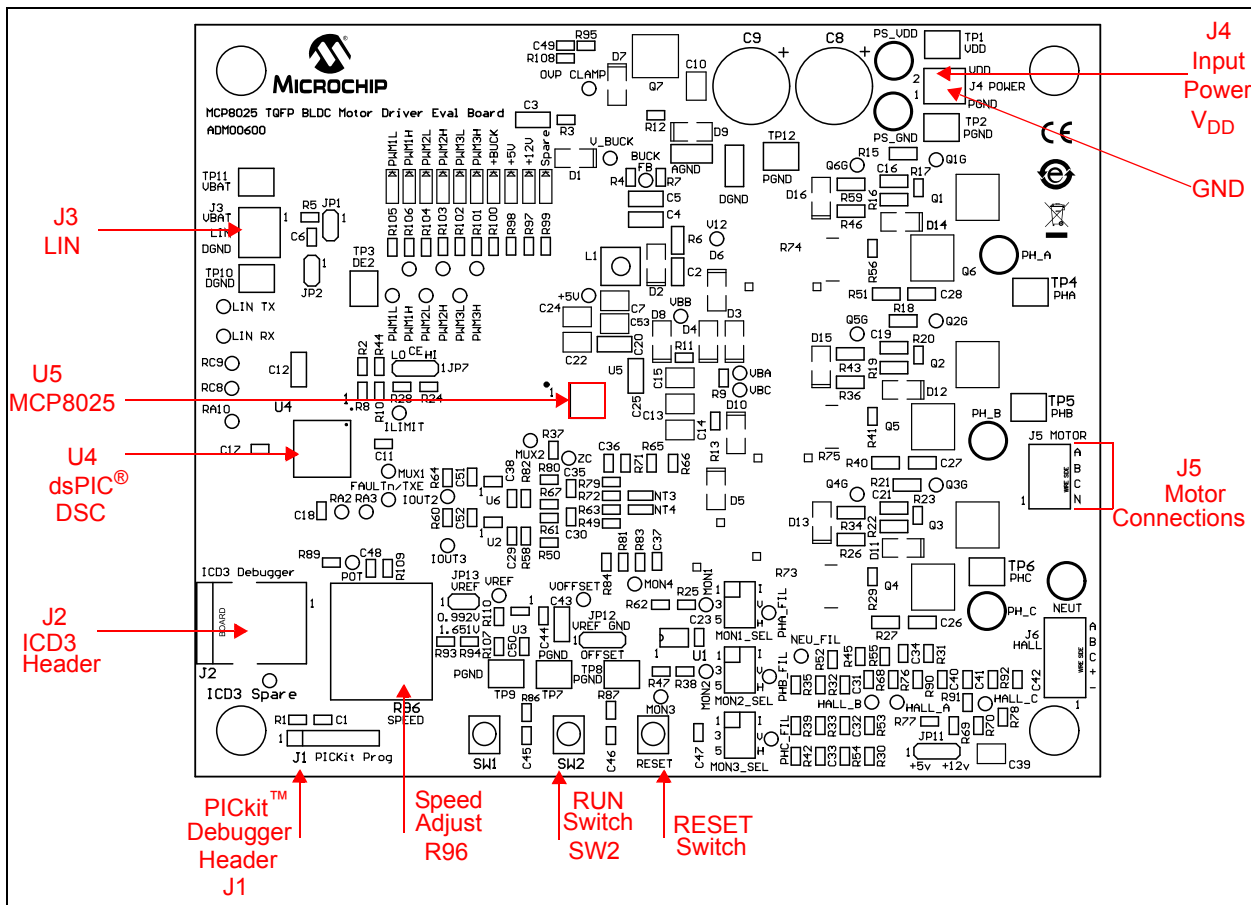

FIGURE 2-2: Connection and Operation Diagram.
2.3.1.2 POWERING THE MCP8025 TQFP BLDC MOTOR DRIVER EVALUATION BOARD (REFERENCE Figure 2-2)
2. Connect the positive side of the input power source (+) to pin 2 of J4. Connect the negative or return side (-) of the input source to pin 1 of J4. Refer to Figure 2-2.